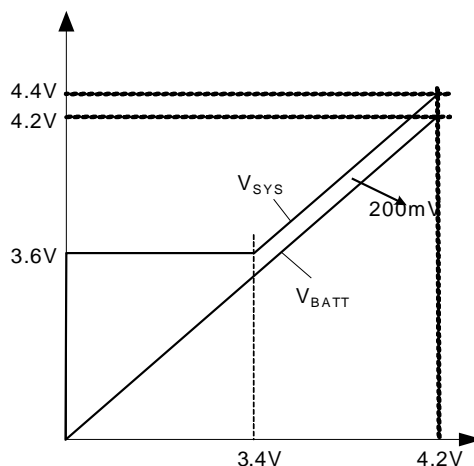

Figure 2 — MP 2617B SYS Regulation Output
- 2) If $BATT < 3.4V$, V_{SYS} is fixed at 3.6V to power the system immediately even when a drained battery is inserted to be charged. Figure 2 shows the relationship of V_{SYS} vs. V_{BATT} .
System voltage can also be regulated to any value between 4.08V to 4.4V in MP2617B (4.22V to 4.63V in MP2617A) by using a resistor divider on the SYSFB pin. This is shown as R6 and R7 in Figure 10. If the SYSFB is left floating, the system program is invalid, and V_{SYS} is regulated as Figure 2.